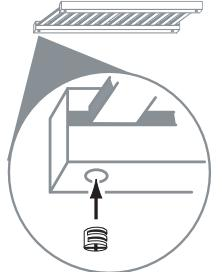

**FIG. 3.0**
1. Select (B) Tower sides and position across from one another with grooves facing inward (**Notched end is top of Tower side**) (Fig. 3.0)